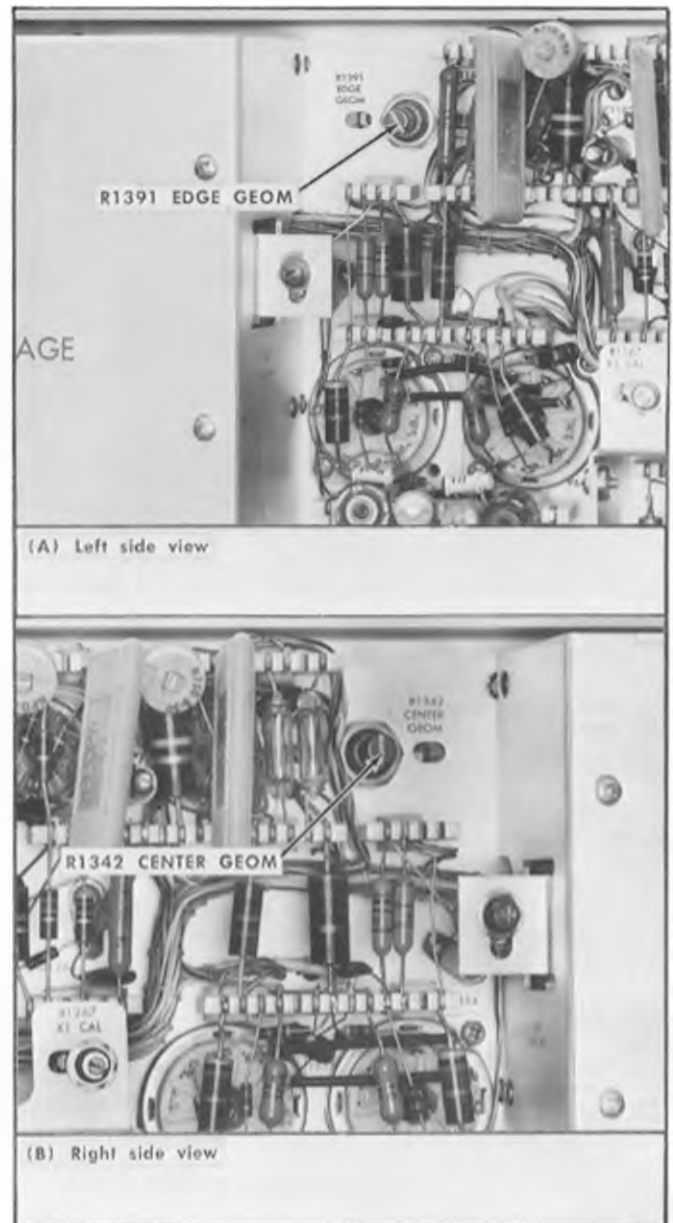

Fig. 6-19. Location of Edge and Center geometry adjustments.
k. Adjust Geometry controls R1391 and R1342 for minimum bowing of the marker traces. (See Fig. 6-19 for R1391 and R1342 locations).